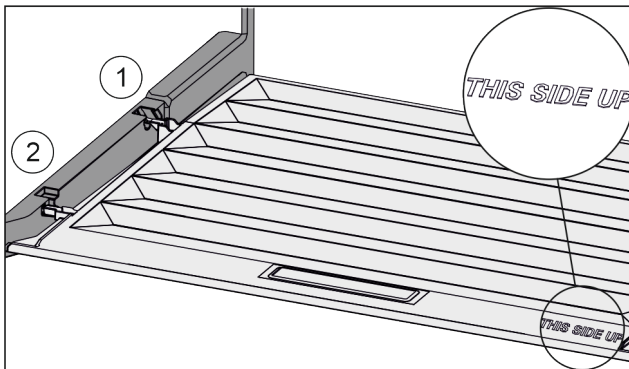

Fig. 162
- ▶ Insert the lip of the cover over the opening of the rear bracket Fig. 162 (1) and click into place Fig. 162 (2).